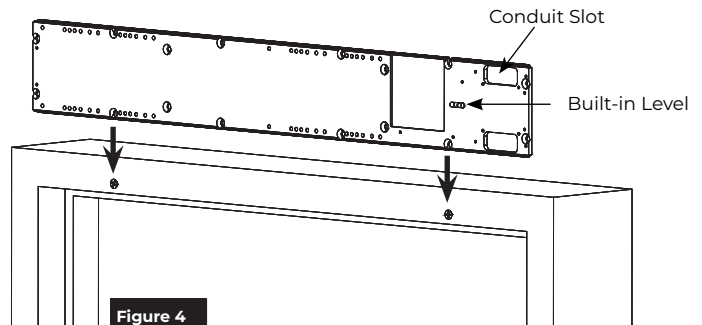

Figure 4
1. Slide backplate over mounting screws. (Figure 4)